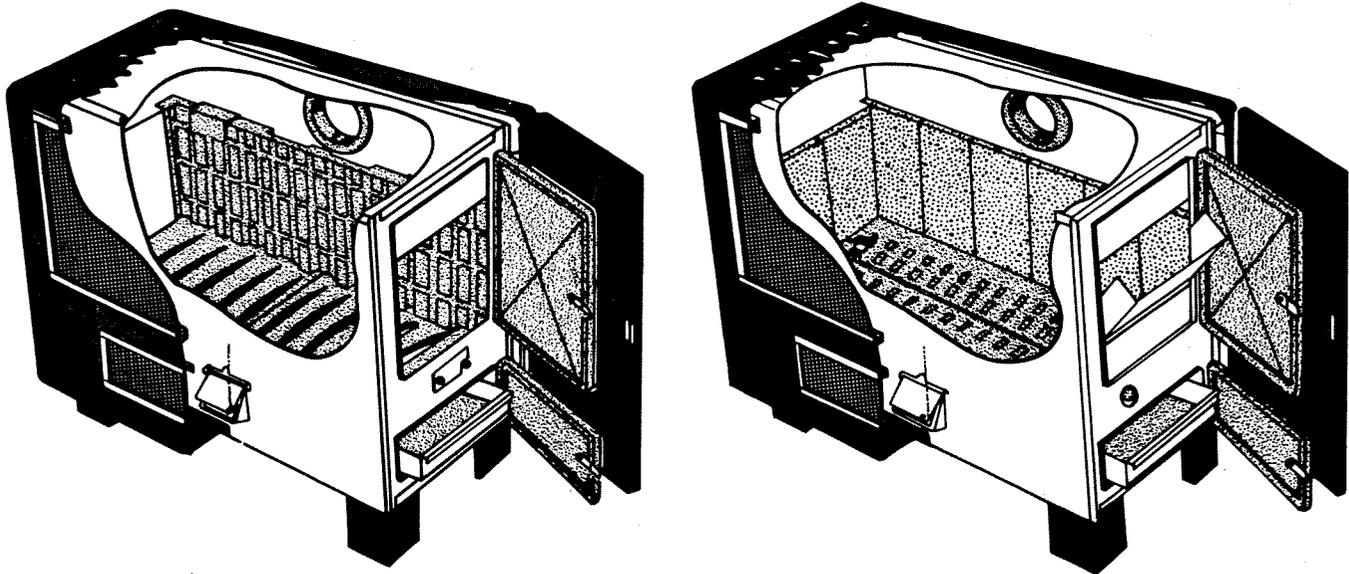

Fig. 23. Cutaway views of Homesteader circulating heaters, Model 240 (left) and Model 240DG (right).
2. **Atlanta Stove Works, Inc.** (manufacturer), P.O. Box 5254, Atlanta, GA 30307. Coal-burning Homesteader model (240DG) has specially designed duplex grate, which will also burn wood. Both models (Fig. 23 and Table 3) have double bottom, 4-inch legs, and an aluminum steel slide-out ash pan. Loading door for 240DG has a coal chute which swings down for easy loading. Manual or automatic blower optional.